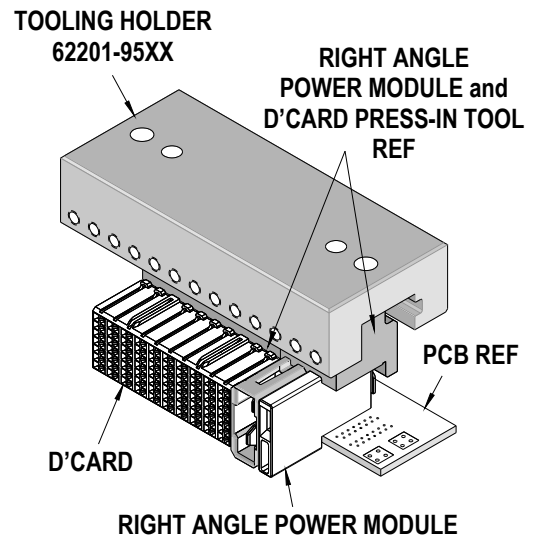

Figure 2-14
- One (1) set screw is used against the Press-In Tool under 10mm guide module.
- Two (2) set screws evenly spaced on a 10mm wide Press-In Tool.
- At least three (3) set screws evenly spaced on a 25mm wide Press-In Tool.
- Place the application tool on top of the power module with the back guide surface of the tool against the back of the power module. See Figure 2-14.